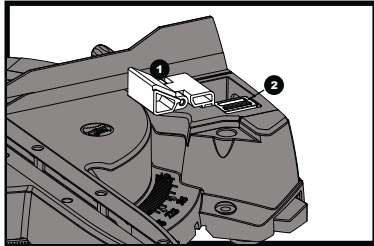

Fig 38
- 1) Slide the sprung-loaded lock (2) forwards.
- 2) Whilst holding the release lock, pull the stop (1) from its stored position upwards and to the right. The stop will deploy to the outboard position.
- 3) Slide the release lock (2) backwards to lock the stop position.
- 4) To stow away, reverse the above steps. (See fig. 38)